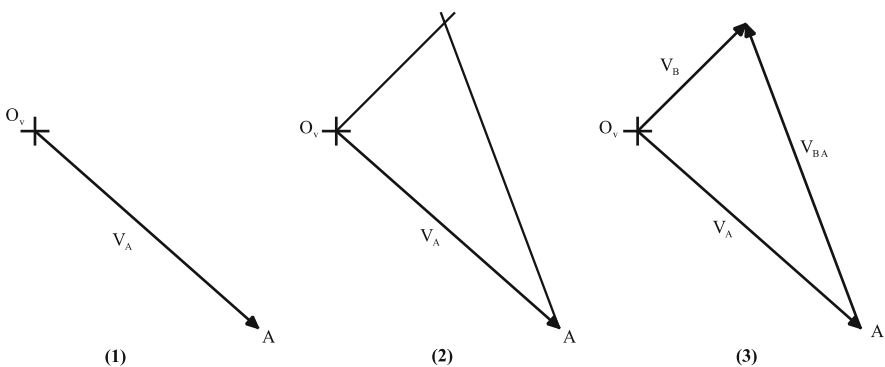

Fig. 2.12 Steps of finding the relative speed
We can plot a velocity polygon with only two unknowns of the vector equation. First, we consider the desired origin O_v and draw it with its size and direction V_A . On the other hand, the directions of V_B and V_{BA} are known. From the origin, we determine the direction of V_B with a dashed line. On the other hand, according to the equation $V_{BA} = V_B - V_A$, so the V_{BA} vector must start from the end of vector A and be connected to the end of vector B . So with the V_{BA} direction, we draw a dashed line from the end of the vector V_A in this direction. The intersection of the V_B and V_{BA} directions completes the polygons. Now we add the direction of the arrows V_B and V_{BA} so that the sum of the polygons matches the sum of the sentences of the velocity Equation (I). We will mark the tip of the V_B vector with B . The steps are shown in Fig. 2.12.